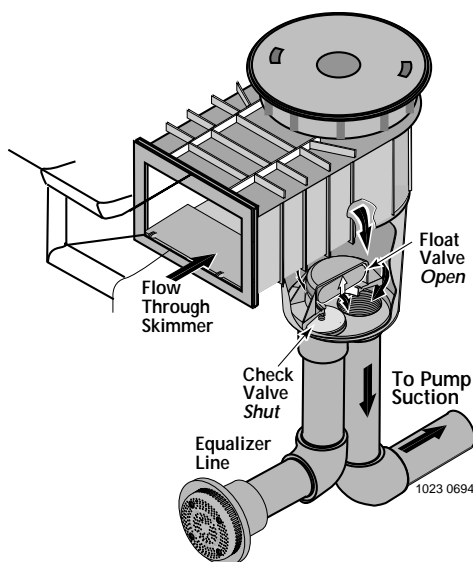

Figure 1: Normal operation: float valve open, check valve shut.
- Skimmers without float:** Adjust shut-off valves in pump suction line from skimmer and pool main drain line. (See Figure 1, below.)